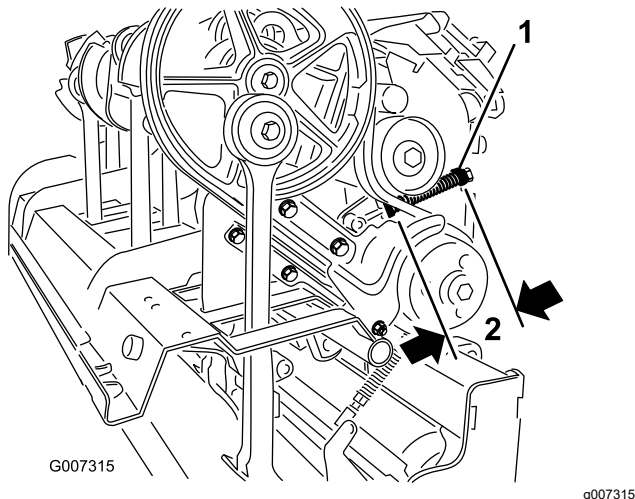

Figure 34
- C. Loosen the locknut securing the spring retainer (Figure 34).
- D. Adjust the spring retainer to attain required compressed spring length (Figure 34).